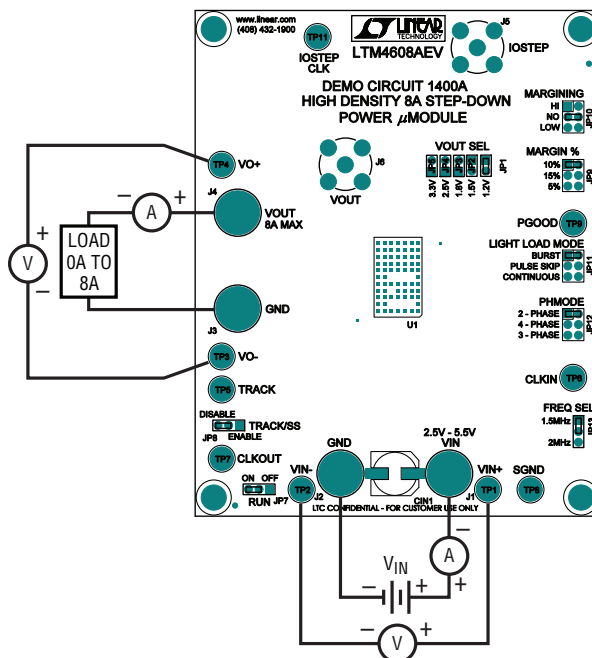

Figure 1. Test Setup of DC1400A
Demonstration circuit DC1400A is an easy way to evaluate the LTM4608AEV. Please refer to Figure 1 for proper measurement equipment setup and follow the procedure below:
2. With power off, connect the input power supply, load and meters as shown in Figure 1. Preset the load to 0A and input power supply between 2.5V to 5.5V.